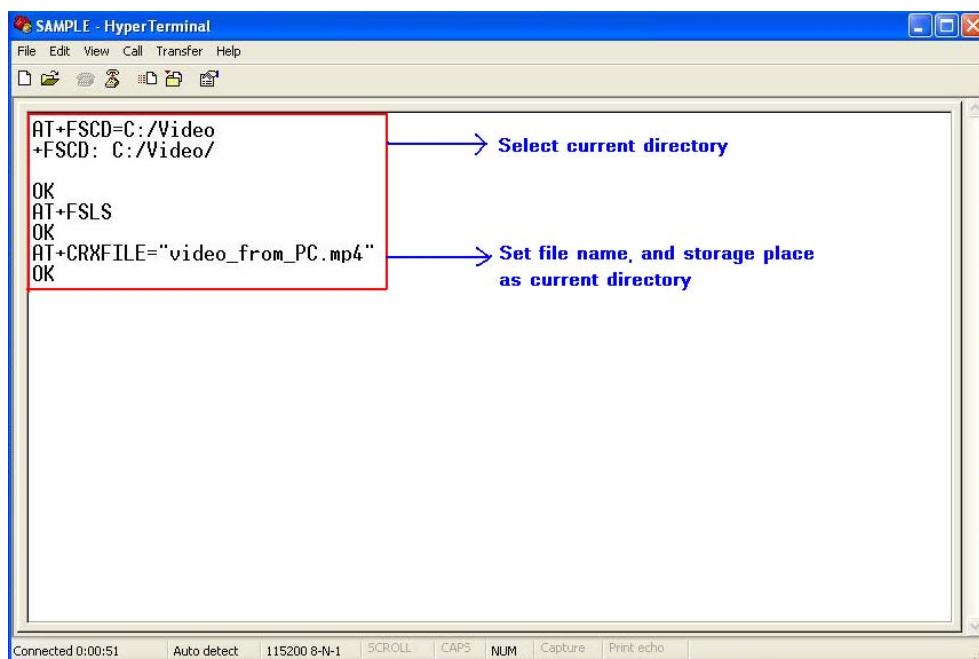

Figure 17-9 Set file name and storage place
- ①. Select directory as current directory by **AT+FSCD**, and then set file name and storage place as current directory with parameter **<dir_type>** of **AT+CRXFILE** is 0 or omitted. [Figure 17-9]